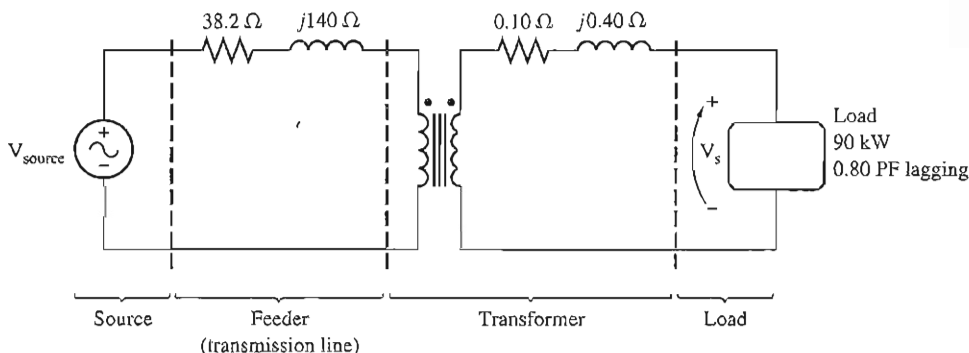

FIGURE P2-1
- 2-2. A single-phase power system is shown in Figure P2-1. The power source feeds a 100-kVA, 14/2.4-kV transformer through a feeder impedance of $38.2 + j140 \, \Omega$. The transformer's equivalent series impedance referred to its low-voltage side is $0.10 + j0.40 \, \Omega$. The load on the transformer is 90 kW at 0.80 PF lagging and 2300 V.